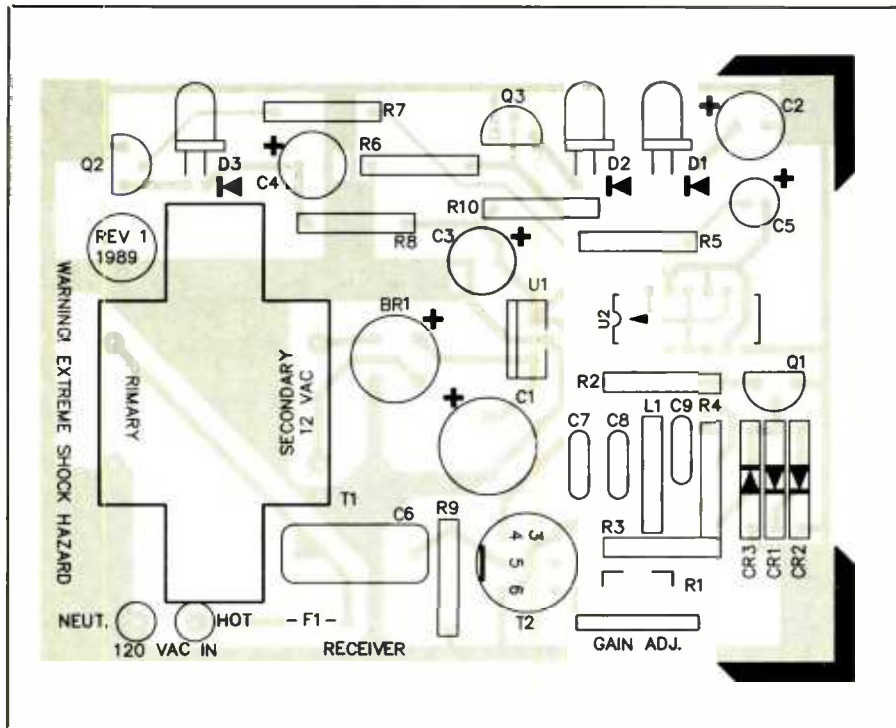

Fig. 10. Wiring guide for receiver pc board.
From here on, we will assume that you are using pc construction. This being the case, refer to the wiring guide shown in Fig. 10. (If you go the
point-to-point wiring route, use Fig. 10 as a rough guide to component placement.)
*T1* and that the notch on the case of *T2* is oriented along the heavy straight line in the case outline for this component in Fig. 10 before soldering any leads or pins into place.